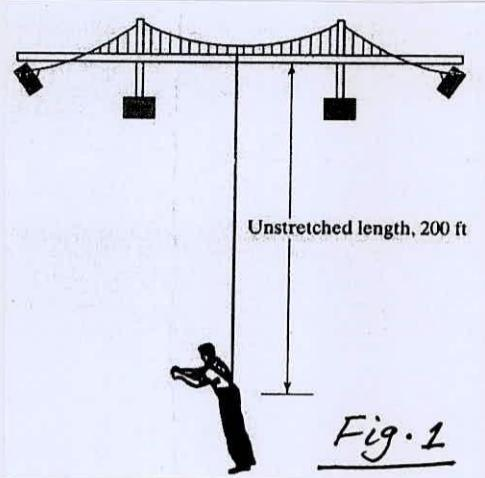

Fig. 1
8. (a) A bungee jumper weighing 160 lb ties one end of a elastic rope of length 200 ft and stiffness 10 lb/in to bridge and the other to himself and jumps from the bridge as shown in Fig. 1. Assuming the bridge to be rigid, determine the vibratory motion of the jumper about his static equilibrium position. **(10)**